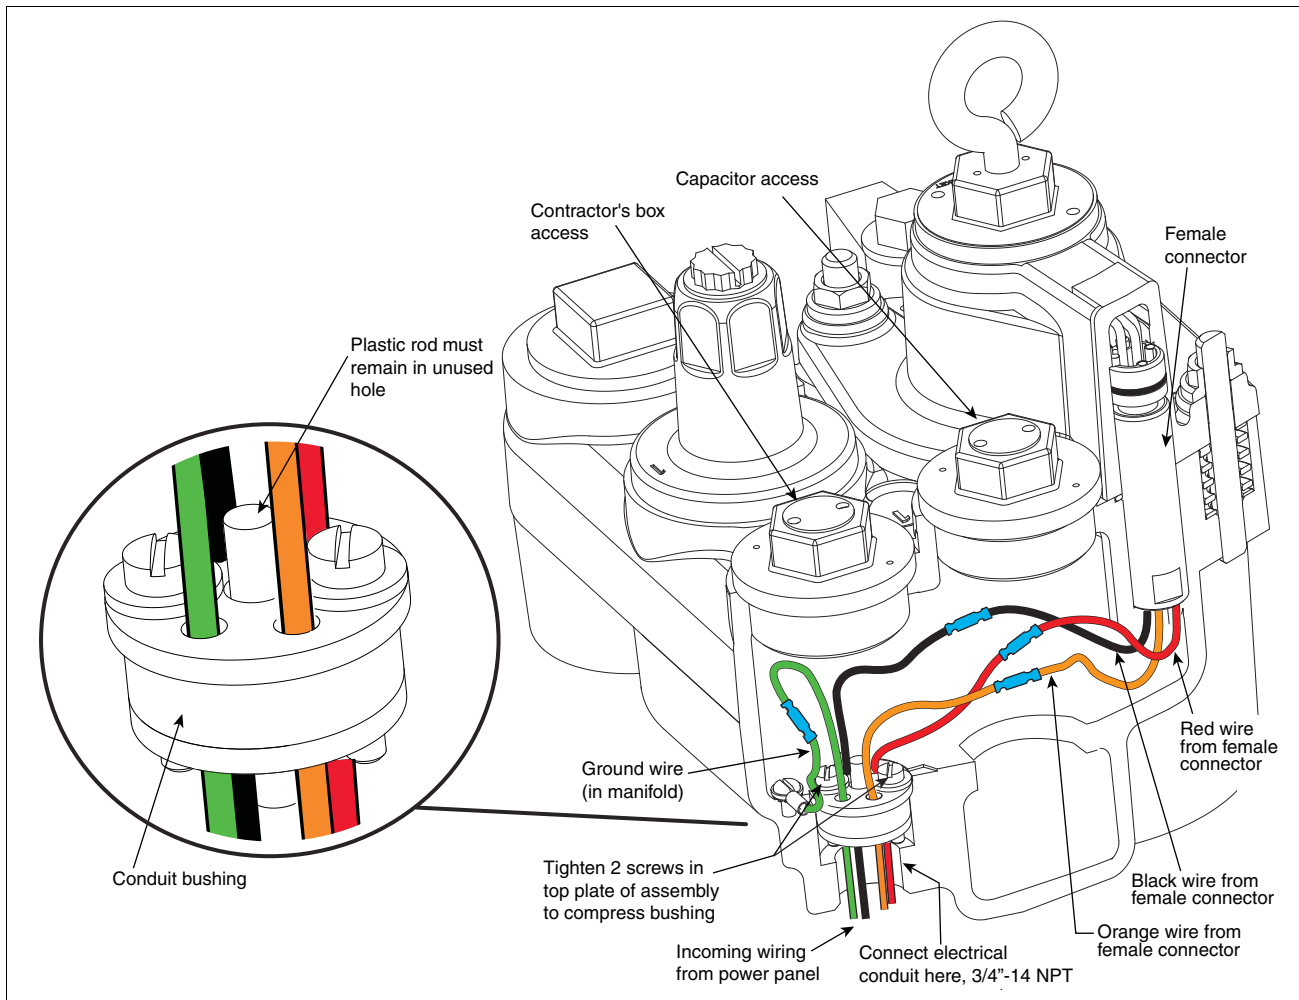

Figure 14. Power Wiring Enters Through Compression Bushing
1. Connect electrical conduit approved fittings to power wiring entry at base of manifold's contractor box 3/4"-14 NPT (5 threads minimum engagement) (see cutaway example in Figure 14 for three phase power wiring).
2. Loosen the two screws in the compression bushing just enough so you can remove the bushing from its socket in the bottom of the manifold's contractor box (see Figure 14). Continue lifting up the bushing until it is accessible. Notice that the top plate of the bushing assembly (facing into the manifold) has a larger diameter than the bottom plate, and that there are two open holes and three holes with plastic rod inserts. The plastic inserts seal the bushing and must remain in any unused hole. For example, bringing three wires from the power panel, use the two empty holes and remove and discard one of the two smaller diameter plastic inserts for the third wire. Push each of the incoming power wires through the empty holes in the bushing assembly. Slide the